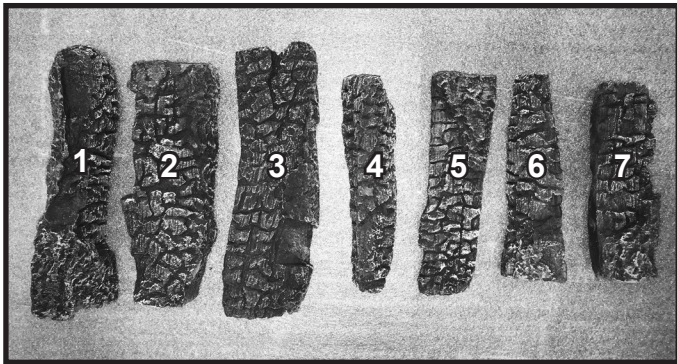

Figure 1. Log Identification - EXCURSION-I, TRILLIANT25I
**NOTICE:** To simplify the installation process, use Figure 1 to positively identify each individual log before beginning installation.